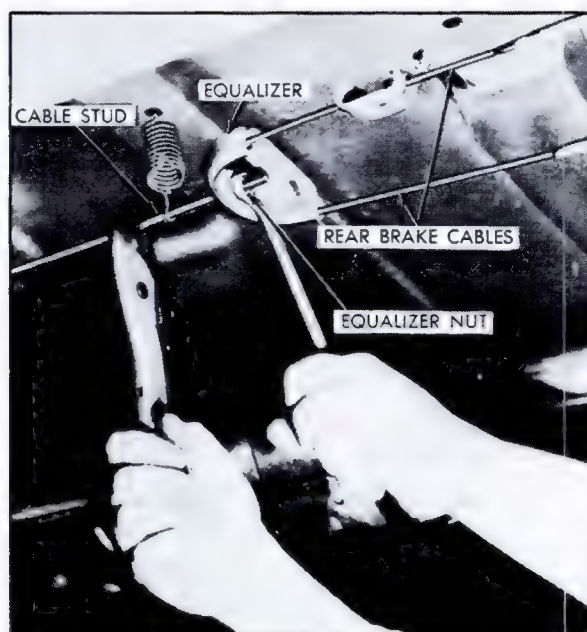

Fig. 5-5 Parking Brake Adjustment
4. Hold brake cable stud from turning, and tighten equalizer nut, Fig. 5-5, until light drag is felt on either wheel (going forward). After each turn of equalizer nut, check to see if either wheel begins to drag.